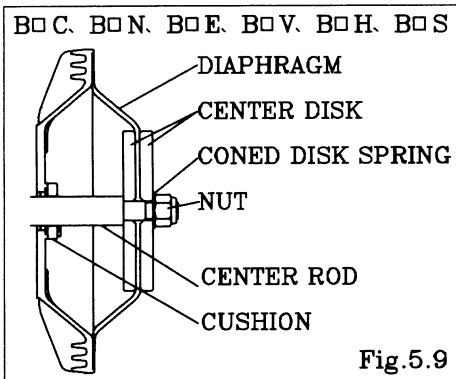

Fig. 5.9
- Fix a double nut to one end of the center rod and take the Diaphragm and center disk off the opposite end [fig. 5.9].
- Insert the cushion (except with the NDP-80). (cf. Fig. 5.9)
- Draw the center disk to one side (exclude B_H, B_S type cf. Fig. 5.9)